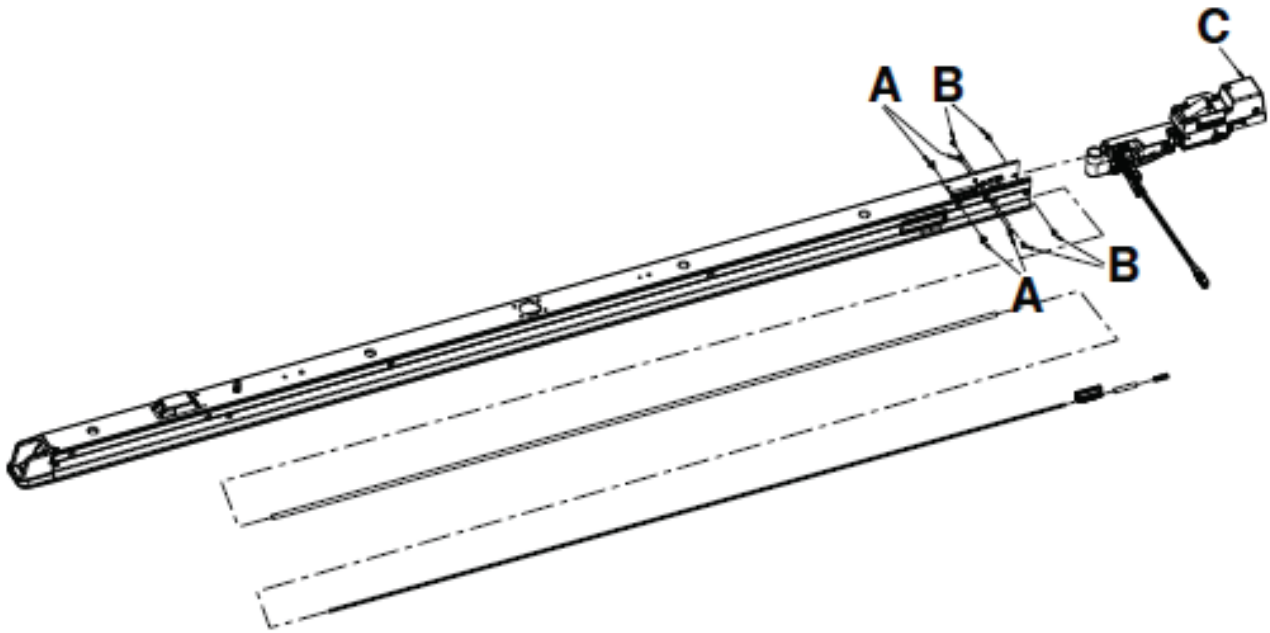

Figure 43 – Remove the anchor pawl assembly from the anchor
5. Using a 5/32" hex wrench, remove the four screws (A) (Figure 43).
6. Using two 1/8" hex wrenches, remove the four flat head cap screws (B) that secure the anchor pawl assembly to the anchor (Figure 43).